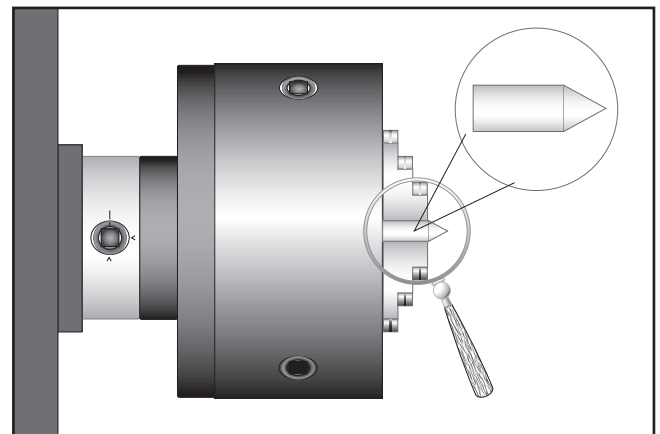

Figure 31. Turning a dead center.
3. Use the other piece of round stock to make a dead center, and turn it to a 60° point, as illustrated in **Figure 31**.